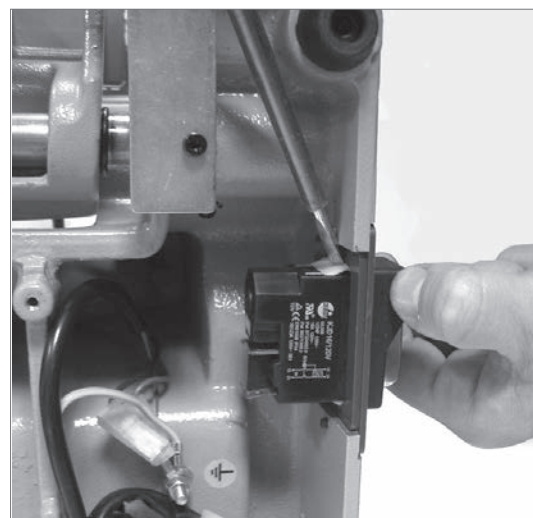

Fig. 42
- 3) Remove the switch making pressure on the tabs with a screwdriver (Fig. 42).